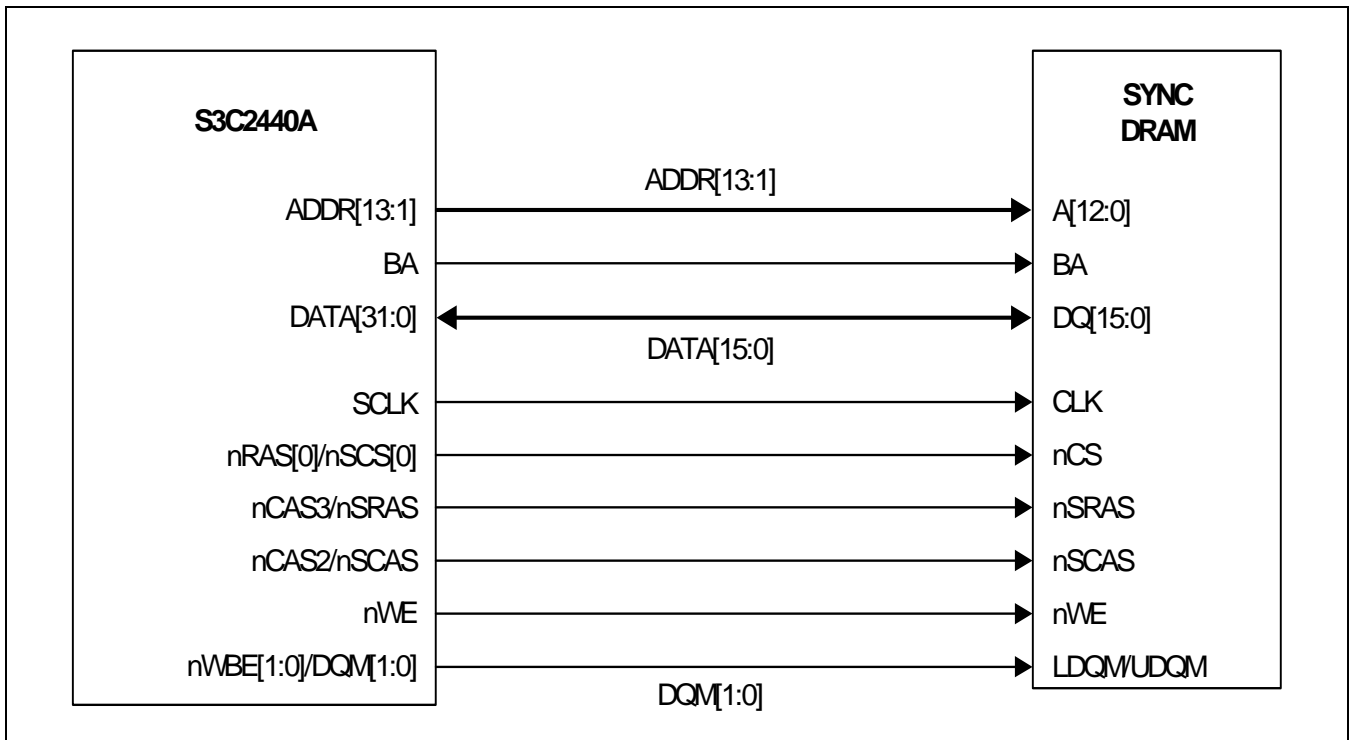
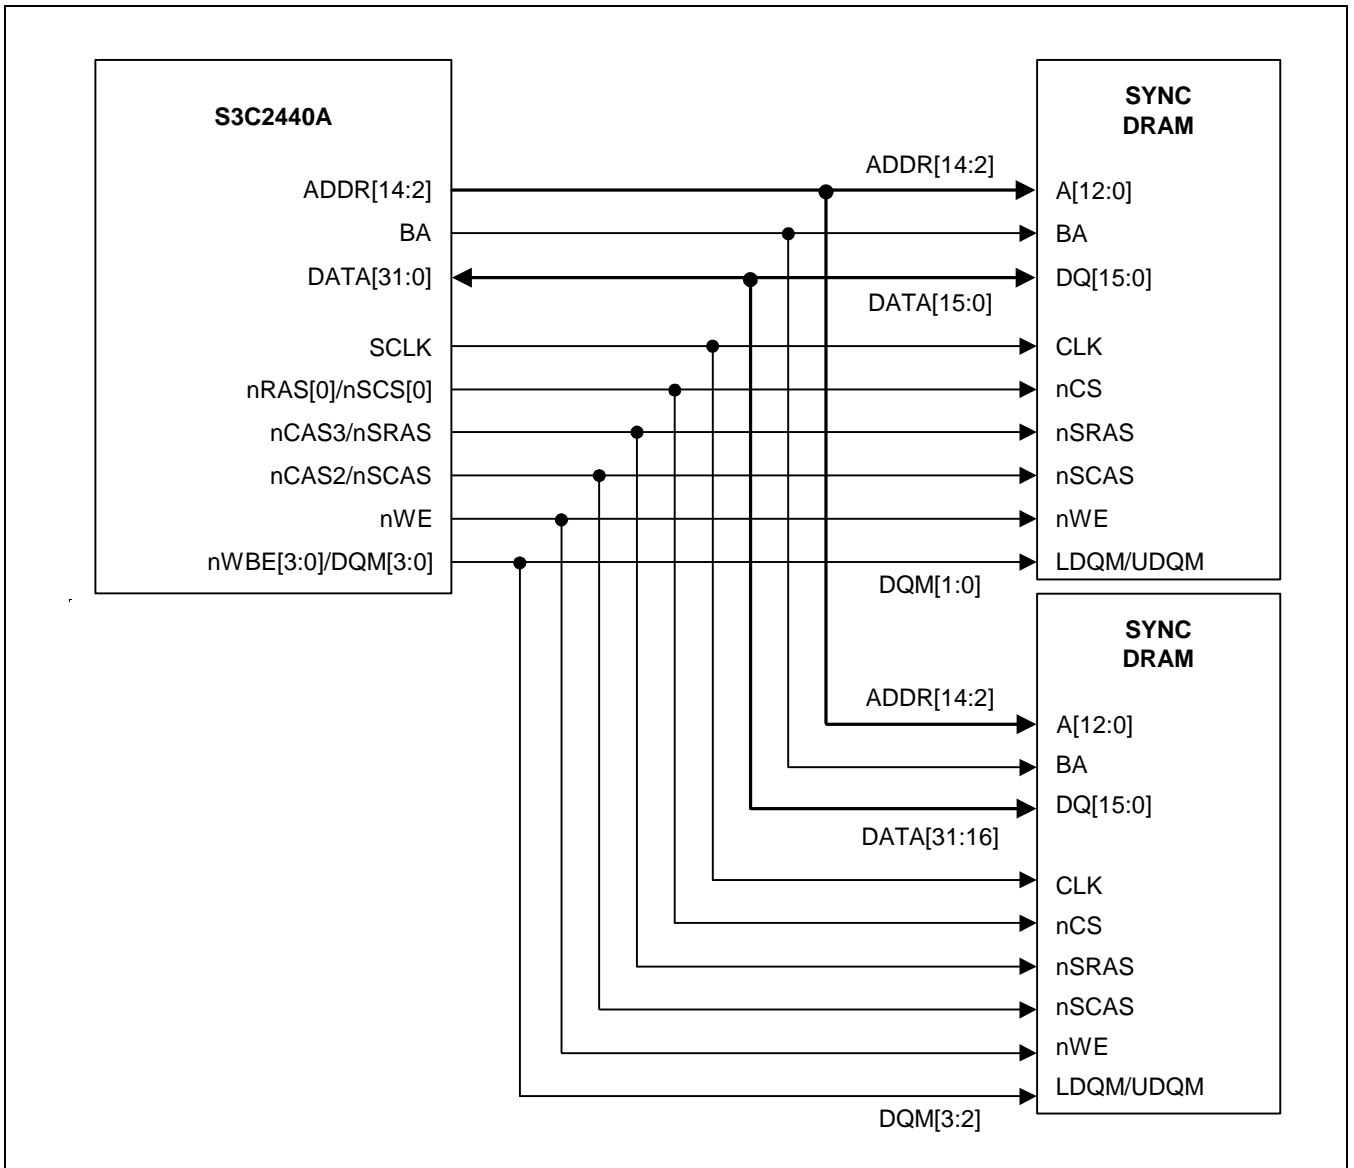

Figure 4-13. Halfword SDRAM Design with Halfword Component
Figure 4-14. Word SDRAM Design with Half-word Component
The required SDRAM interface pin is CKE, SCLK, nSCS [1:0], nSCAS, nSRAS, DQM [3:0] and ADDR [12]/AP. The sample design with SDRAM is shown in Figure 4-13 and Figure 4-14.
- UG-32F04 (320x240 mono STN LCD) from SAMSUNG DISPLAY DEVICES CO., LTD. (refer to Figure 4-14)